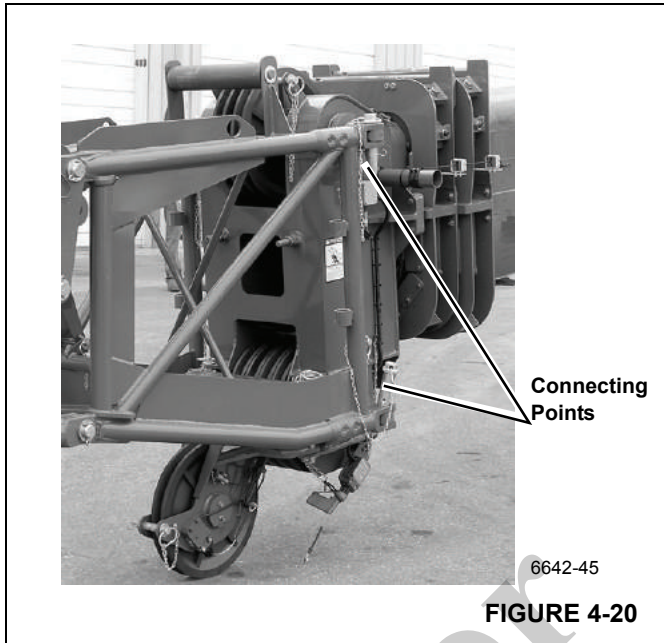

FIGURE 4-20
- Continue to lower carefully until the connecting points (Figure 4-20) align or until the load has been removed from the pins.